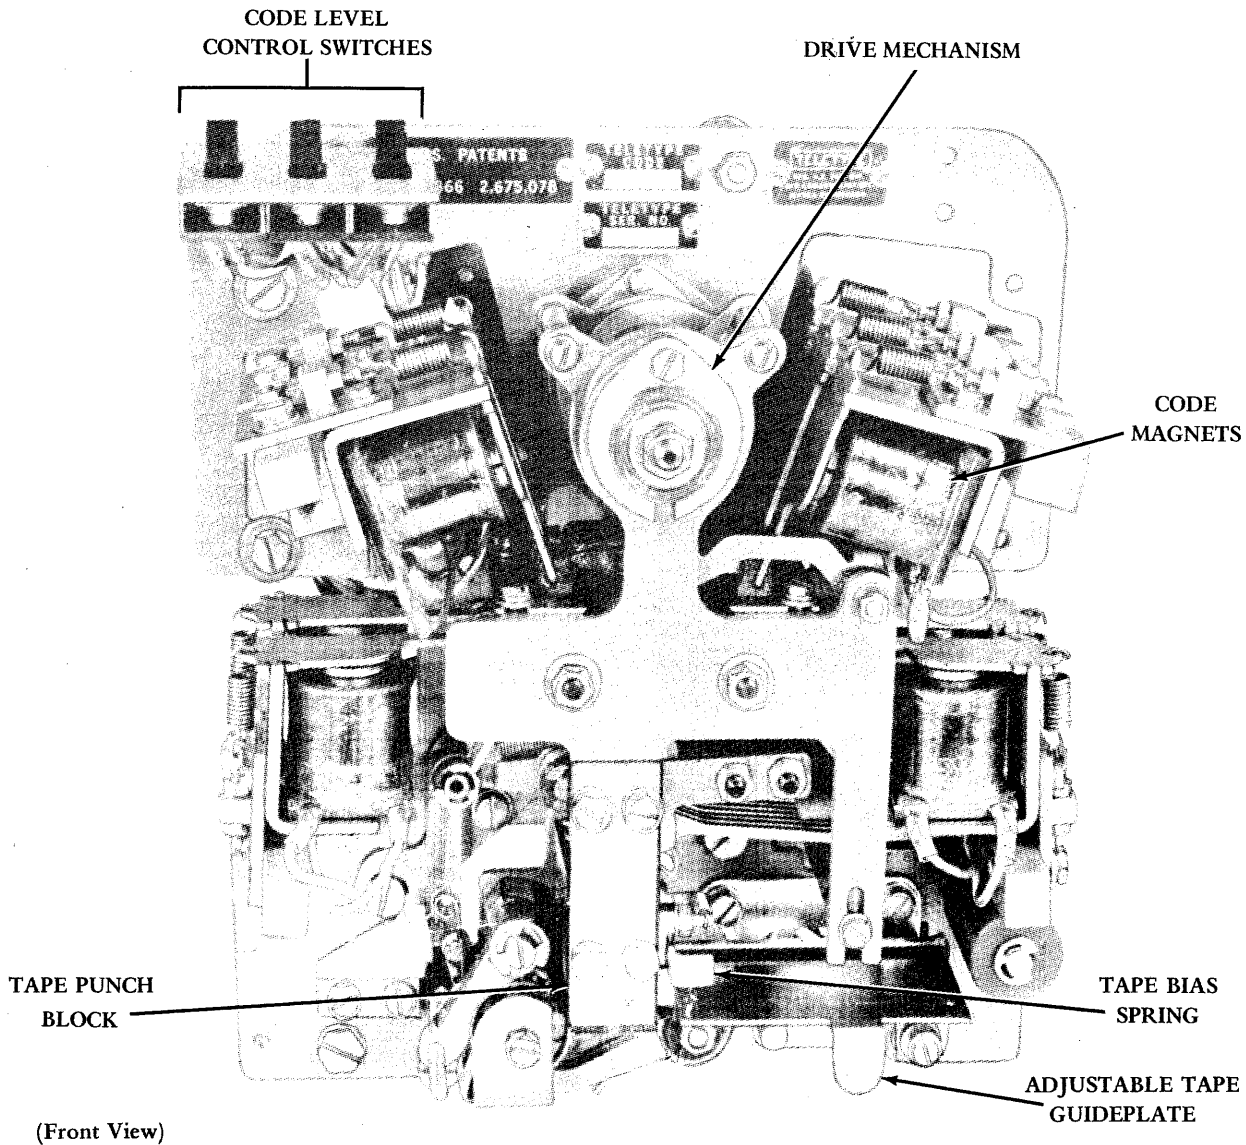

Figure 10 - Universal Tape Punch Unit
4.10 The punch units with the universal tape punch (Figure 10) are capable of perforating 11/16-inch tape with 5-level code, or 1 inch tape with 5-, 6-, 7-, or 8-level codes. To accomplish this, a manually operated mechanism is provided to mechanically vary the size of the punch block tape path to accept either 11/16 inch or 1 inch tapes. Associated with this mechanism is a variable tape guide mechanism and three switches which electrically control the 0, 6, and 7 code levels.